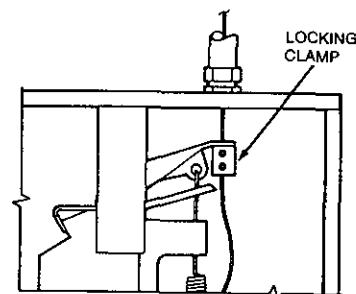

FIGURE 34
3. Starting at the release assembly, feed the wire rope through the hole in the release mechanism locking clamp, allowing the excess wire rope to hang down. (Do not tighten set screws in locking clamp at this time.) See Figure 34.